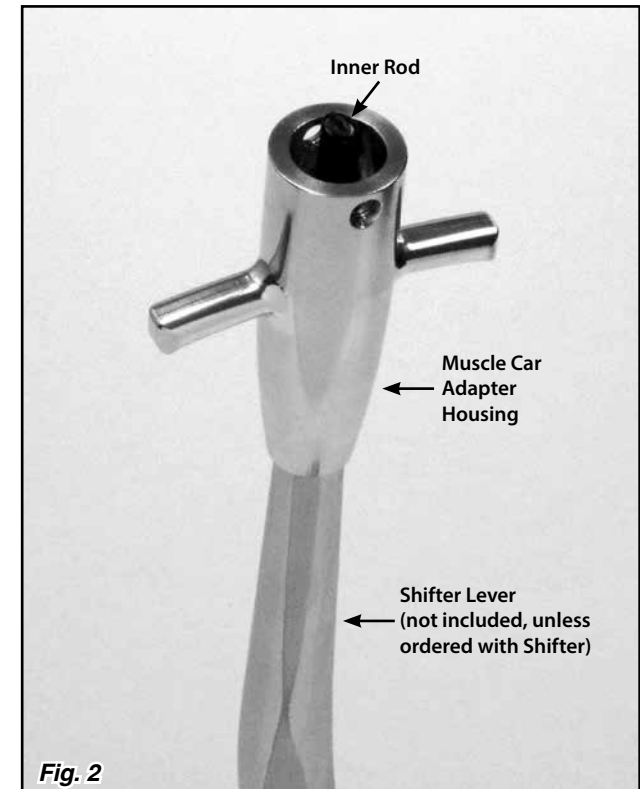

Fig. 2
Step 2: Install the muscle car adapter housing onto your shifter lever, threading it all the way down until it bottoms out. **Fig. 2**